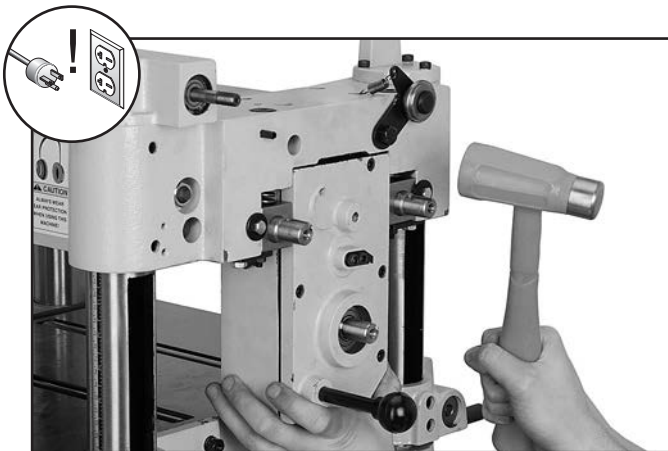

Figure 13. Example of seating cutterhead-gearbox assembly.
7. Install cutterhead-gearbox assembly into planer. Seat cutterhead shaft bearing by tapping on gearbox with rubber or wooden mallet, as shown in **Figure 13**.